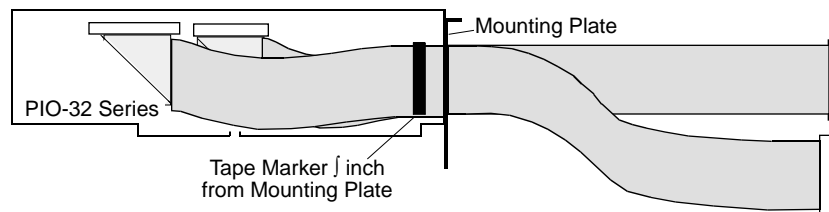

Figure 2. Cabling Taped to Show Shield Boundary
1. With cabling installed and clamped, wrap all cables together with a piece of tape to mark a shield boundary at a point one-half inch or more away from the inside surface of the mounting plate, as shown in Figure 2.